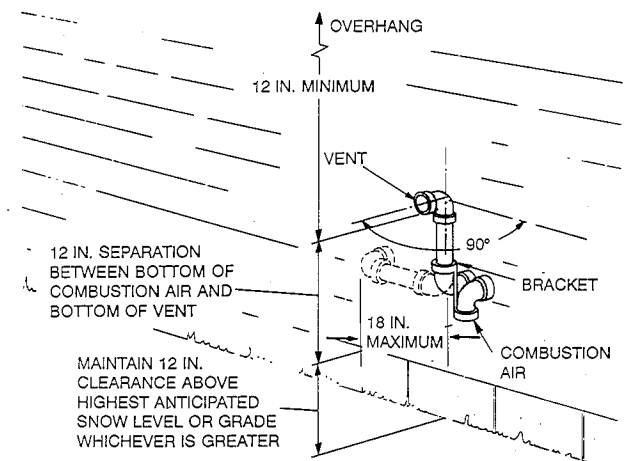

Fig. 16—Sidewall Termination (12 in. or more above snow level or grade)
2. Sidewall termination when combustion-air and vent pipes exit through sidewall 12 in. or more above highest anticipated snow level and grade. (See Fig. 16.)
- a. Install elbows as shown in Fig. 16 using same procedures for cementing as used for system piping.
- b. Install bracket as shown in Fig. 16.
- c. Position vent pipe and elbow to maintain vertical 12-in. separation between vent pipe outlet and combustion-air inlet. Cement vent pipe in elbow as shown in Fig. 16.
- d. For applications using vent pipe option indicated by dashed lines in Fig. 16, rotate vent elbow 90° from position shown in Fig. 16.